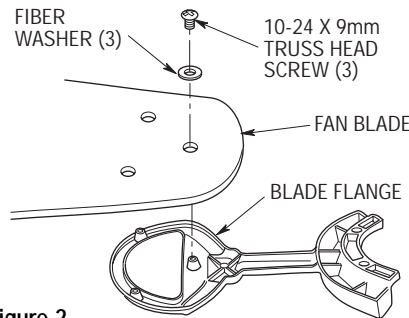

Figure 2
- 1. Mount the fan blades to the blade flanges using three 10-24 x 9mm truss head screws and three fiber washers (supplied) (Figure 2).